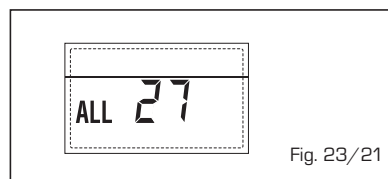

Fig. 23/21
- **COMPATIBILITY INPUT (S3) ANOMALY ONLY FOR SYSTEM 7 "ALL 28" (fig. 23/22)**